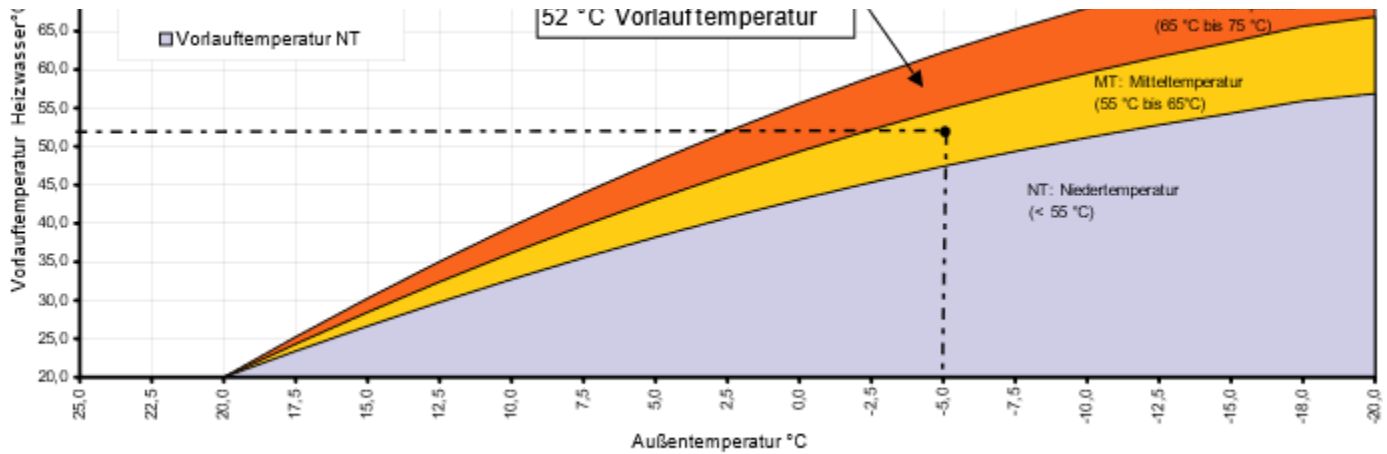

Fig. 1.1: Diagram for the experimental determination of the actually required system temperatures
- **Experimental determination in the heating season (see Fig. 1.1)**